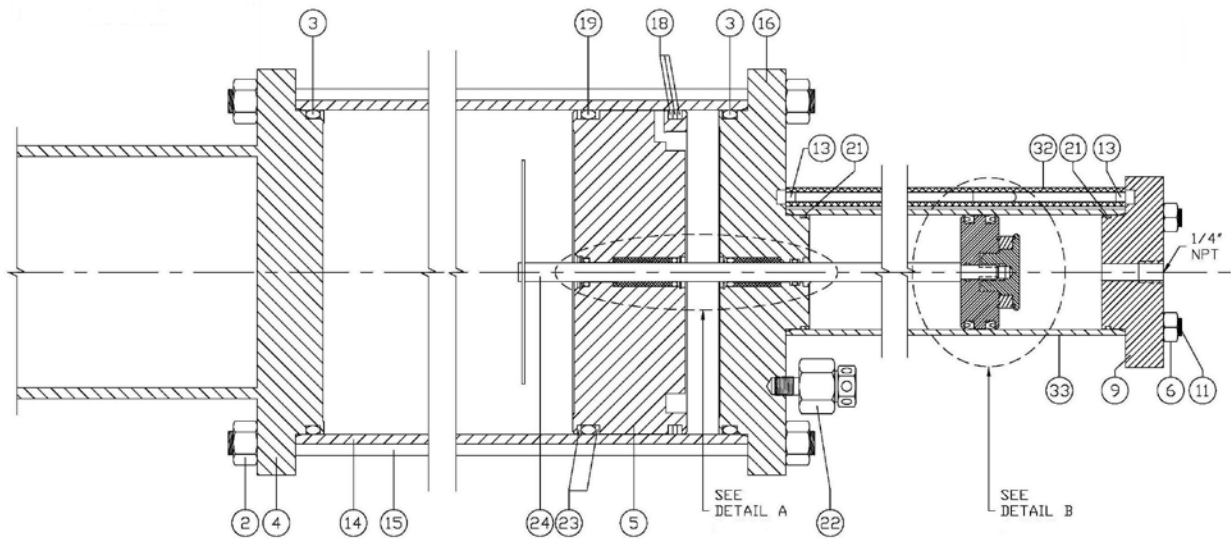

FIGURE 4.1
- 4.2.3 Disconnect the tubing from the mixer portion and the tubing between the nitrogen cylinder and the CP-30 top flange #16. (Figure 4.1)